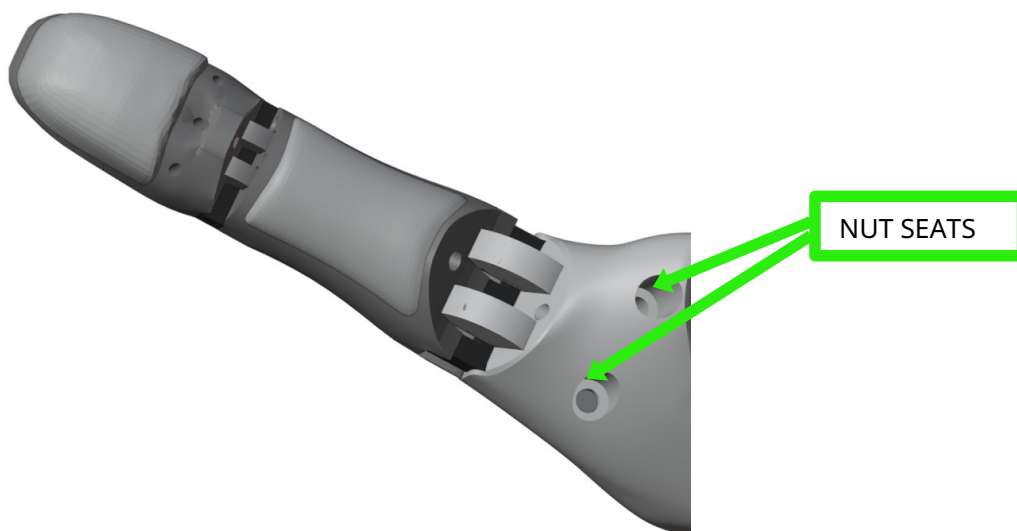

Figure 5.18: Thumb fixing with nuts
3. Secure with two M3 nuts placed on the opposite side (figure 5.18)